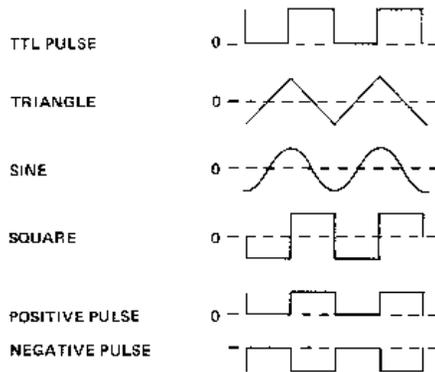
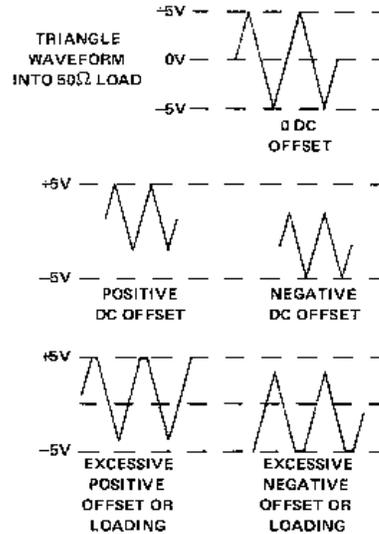

Figure 3-4. Pulse/Waveform Phase Relationship and Waveform Reference Lines
Figure 3-5. DC OFFSET Control
(8) Synchronizing Pulse Output Connector
A fixed amplitude (0 to about 5V) TTL pulse of the generator frequency is provided at the PULSE OUT connector. This output can be used as a synchronizing reference for the main output (6). Phase of the waveforms relative to the sync output is shown in figure 3-4.
⑨ DC OFFSET Control
Offset of waveforms and dc voltage are controlled by the DC OFFSET control. The WAVEFORM switch ⑩ must be in one of the four right-hand settings. Center of the waveform reference (figure 3-4) is skewed positive with clockwise rotation, negative with counterclockwise rotation. Offset and dc voltage maximums are $\pm 5V$ (50Ω terminated). See figure 3-5 for restrictions.
⑩ WAVEFORM Selector